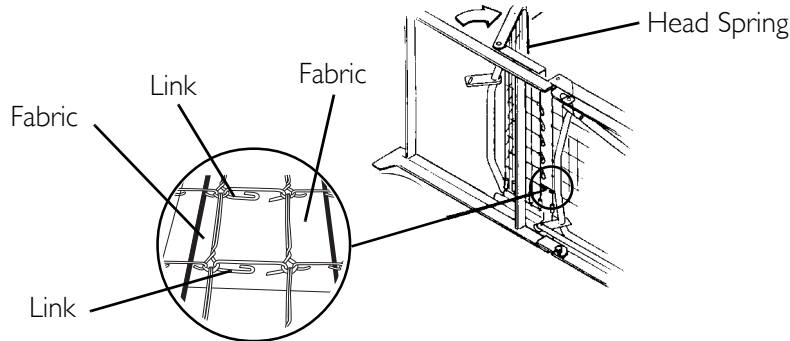

FIGURE 4.5 Assembling the Spring Fabric
NOTE: For this procedure, refer to FIGURE 4.5.
2. Connect the spring fabric together with the links provided. Refer to FIGURE 4.5.